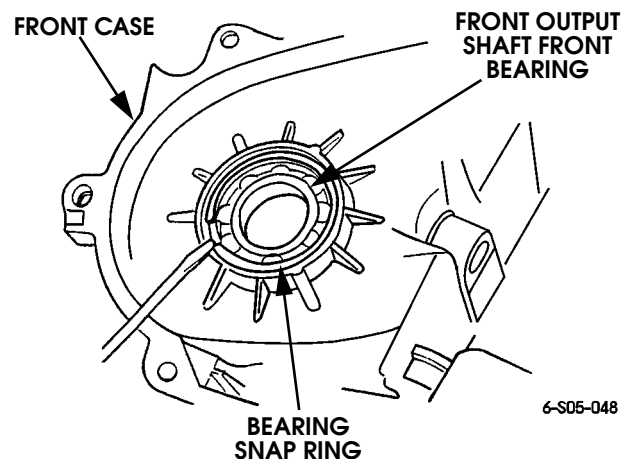

Figure 5-120: Front Output Shaft Front Bearing Snap Ring Removal/Installation
1. Remove snap ring securing shaft front bearing in front case (Figure 5-120).